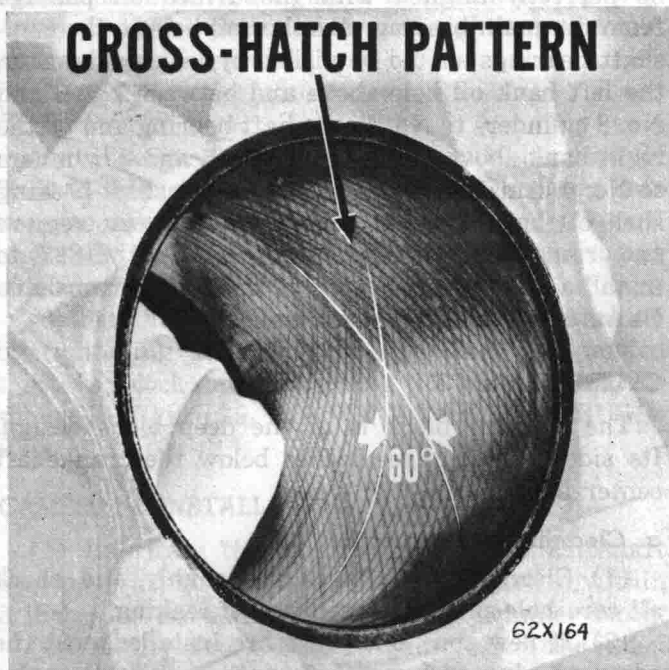

Fig. 43—Cross Patch Pattern
(2) The cylinder walls should be deglazed, using cylinder surfacing hone Tool C-3501 equipped with 280 grit stones, prior to installation of the new rings or to smooth down the cylinder walls after rough honing.
(3) A satisfactory finish can be obtained by giving each cylinder wall 20 strokes in 20 seconds with the hone so that a cross hatch pattern will be obtained (Fig. 43).
(4) After honing, it is necessary that the block be cleaned again to remove all traces of abrasives, and to prevent excessive wear of engine parts.